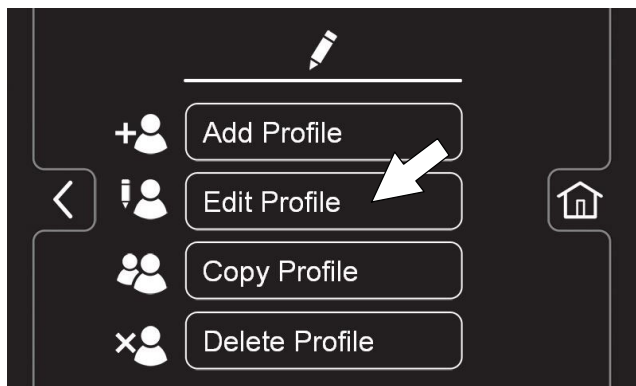

FIG. 199
3. Press the Edit Profile button (Figure 199).